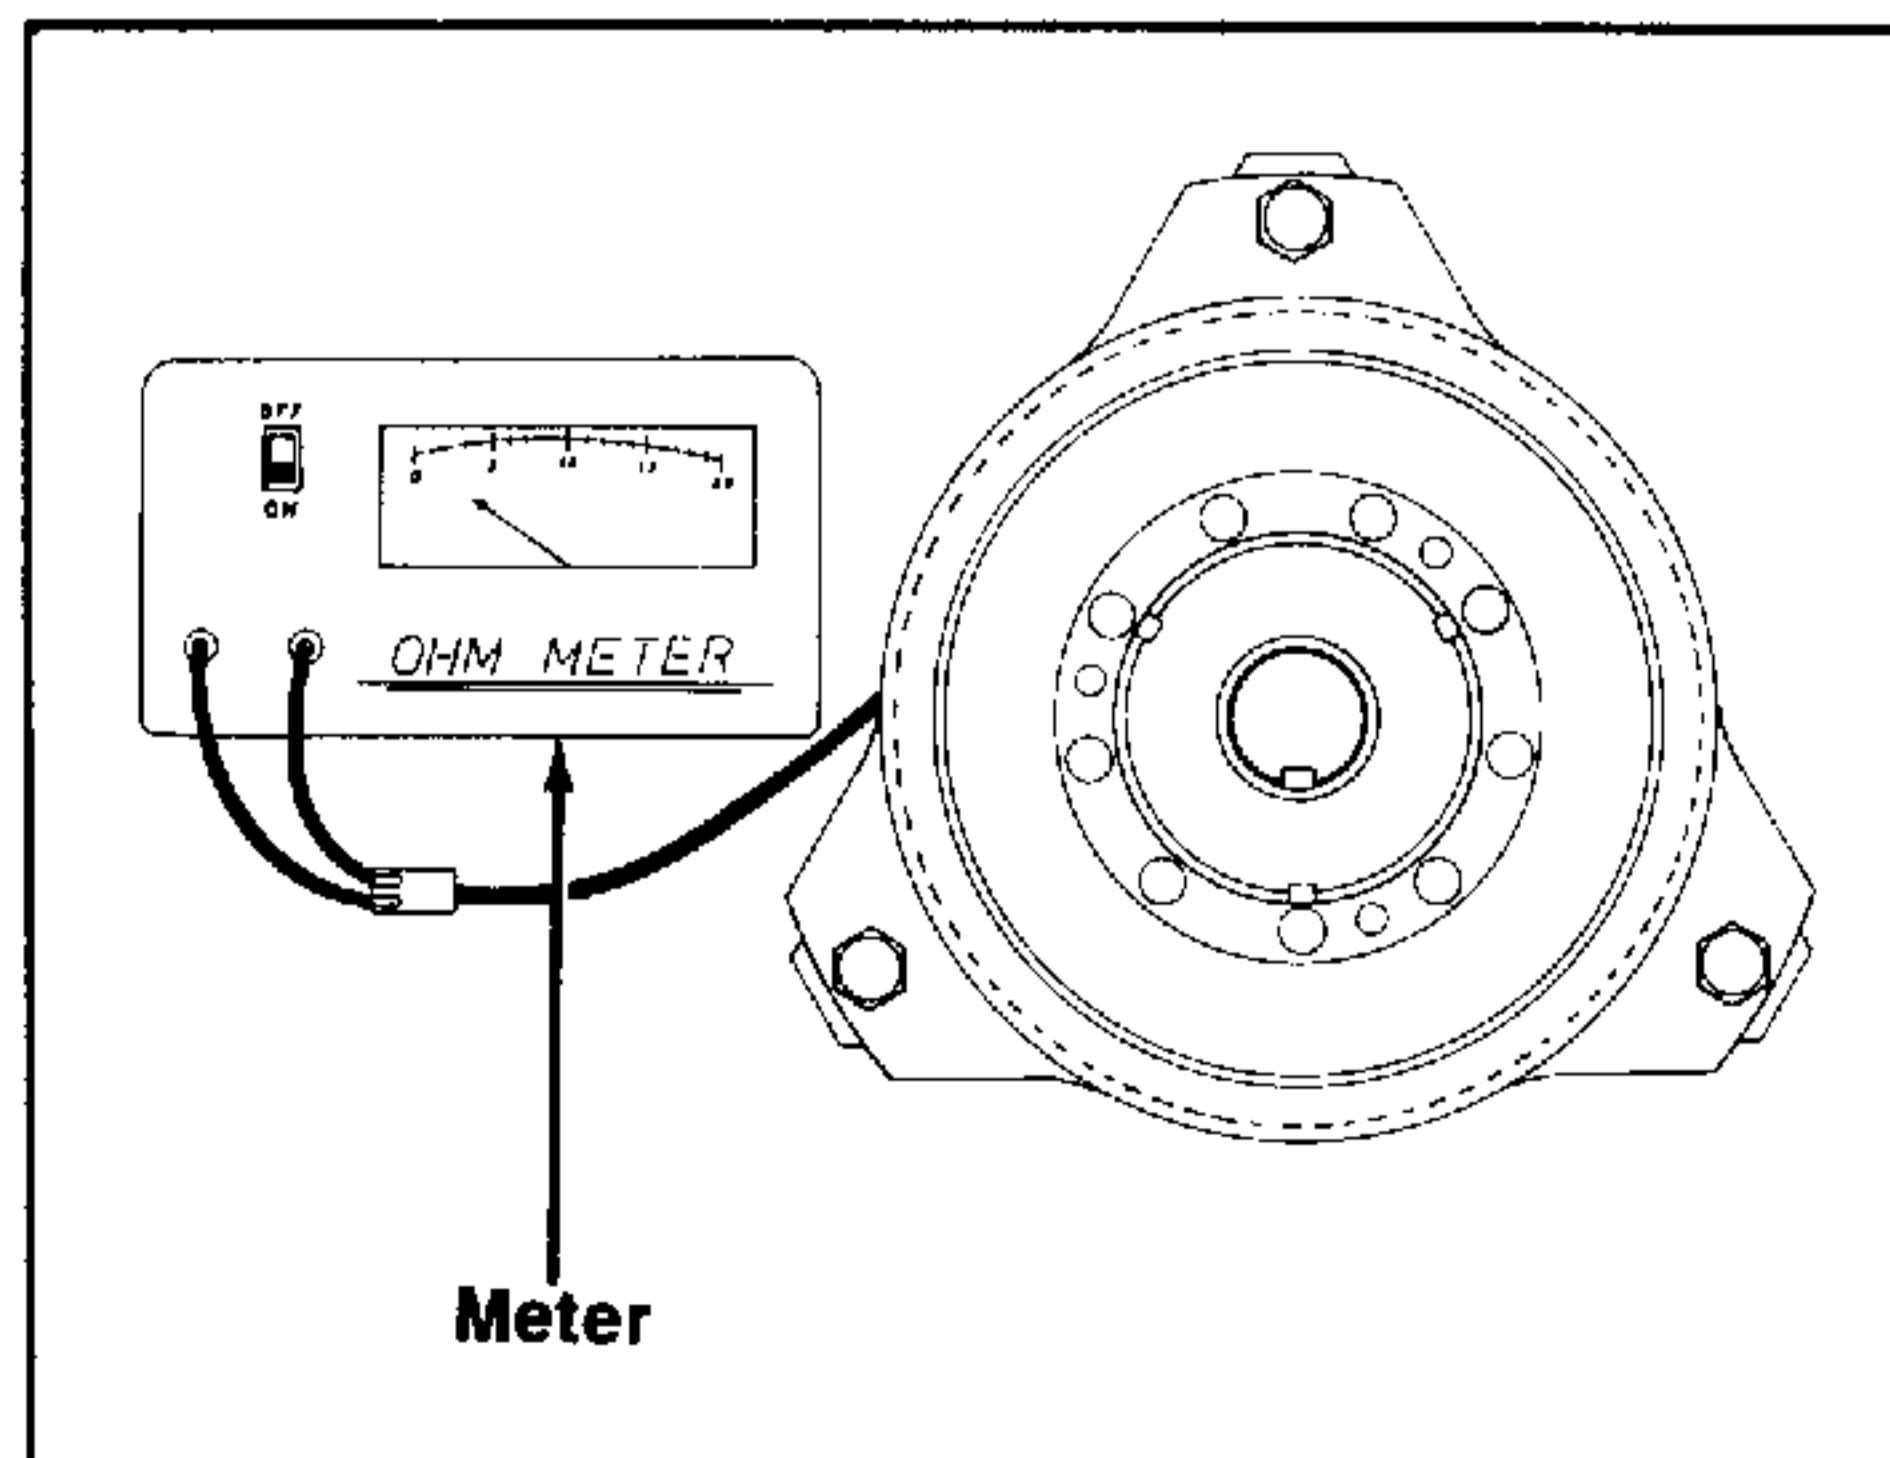

FIGURE 1.
4. Connect meter lead wires to the wires in the clutch connector (see figure 1).